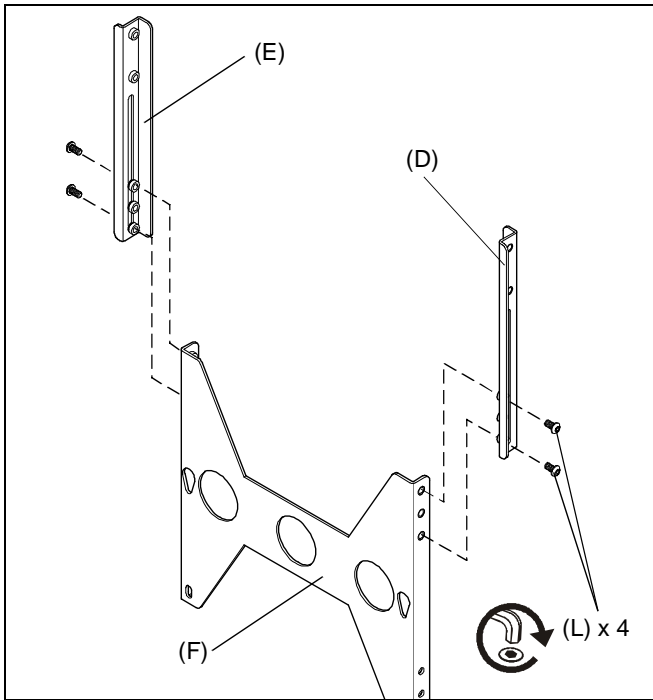

Figure 1
1. Assemble left bottom speaker bracket (E) to center speaker bracket (F) using two 1/4-20 x 1/2" button head cap screws (L). (See Figure 1)
2. Assemble right bottom speaker bracket (D) to center speaker bracket (F) using two 1/4-20 x 1/2" button head cap screws (L). (See Figure 1)